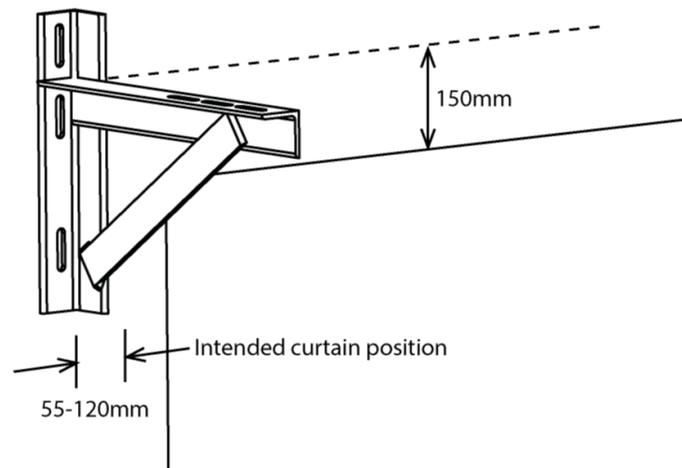

Figure 3.1
- Fix hanging bracket with 2 x TEK 17 x 75mm screws and flat washers. Refer to Figure 3.1 for correct orientation.